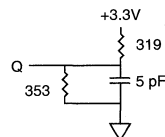

Fig. 2 OUTPUT LOAD EQUIVALENT
6. t_{HZCE} , t_{HZOE} and t_{HZWE} are specified with $CL = 5pF$ as in Fig. 2. Transition is measured $\pm 200mV$ from steady state voltage.